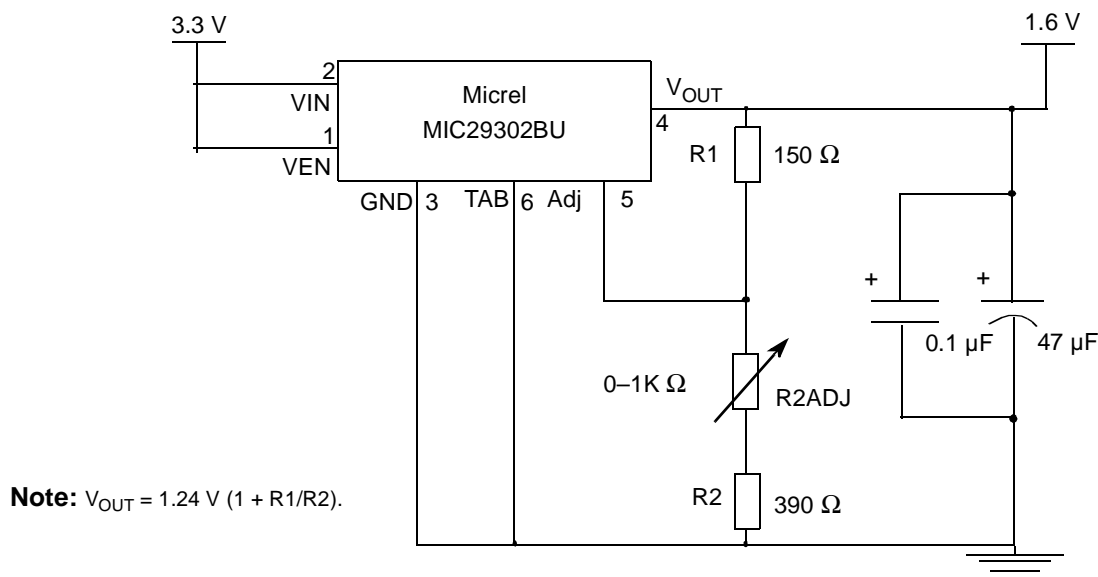

Figure 1. Core Power Supply Using Adjustable Linear Regulator
- **Suggested Power Supply Design.** One of the most common ways to derive power is to use either a simple fixed or adjustable linear regulator. For the system I/O voltage supply, a simple fixed 3.3 V supply can be used. However, a separate adjustable supply for the core voltage V_{DD} should be implemented. As **Figure 1** shows, an adjustable linear regulator supply can be used. To support future MSC8102 silicon revisions with lower core voltages for lower power, V_{OUT} can be adjusted by modifying the values of R_{2ADJ} . In **Figure 1**, the values $R_1 = 150\ \Omega$, $R_2 = 390\ \Omega$, and $R_{2ADJ} = 0\text{--}1\text{ K}\Omega$ generate an output voltage of 1.36–1.7 V.